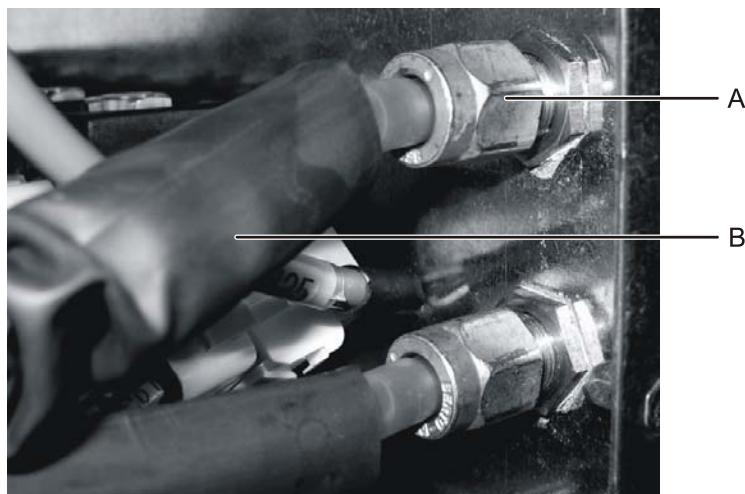

Figure 98: Disconnecting the water lines
15. Pull back the cladding (see Figure 98, B) and use the 17 mm allen key to disconnect the water lines (A) from the bulkhead connection.